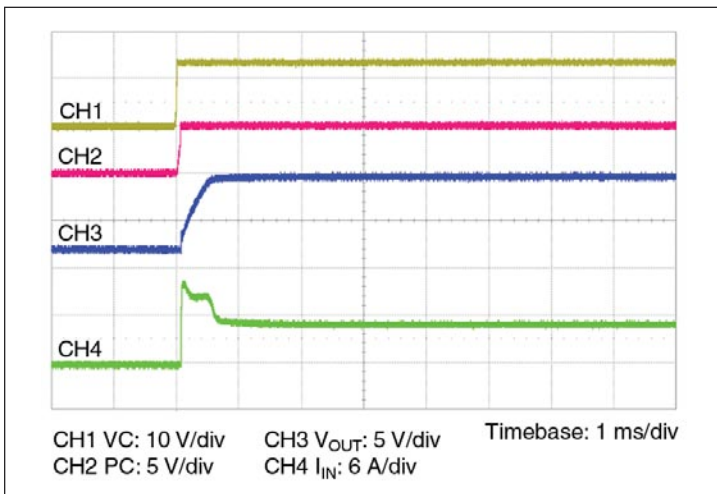

Figure 11 — Start up from application of VC;
- Stand-alone operation (VC applied after V_{IN}): In this case the VTM output will begin to rise upon the application of the VC voltage (See Figure 11). The Adaptive Soft Start Circuit (See Section 11) may vary the output rate of rise in order to limit the inrush current to its maximum level. When starting into high capacitance, or a short, the output current will be limited for a maximum of 1200 µsec. After this period, the Adaptive Soft Start Circuit will time out and the VTM module may shut down. No restart will be attempted until VC is re-applied or PC is toggled. The maximum output capacitance is limited to 2300 µF in this mode of operation to ensure a successful start.